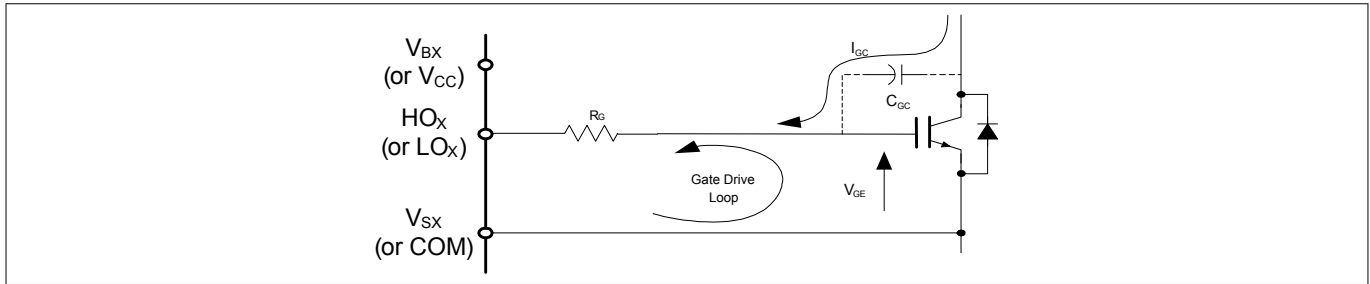

Figure 29 Antenna loops
**Gate Drive Loops:** Current loops behave like antennas and are able to receive and transmit EM noise (see Figure 29). In order to reduce the EM coupling and improve the power switch turn on/off performance, the gate drive loops must be reduced as much as possible. Moreover, current can be injected inside the gate drive loop via the IGBT collector-to-gate parasitic capacitance. The parasitic auto-inductance of the gate loop contributes to developing a voltage across the gate-emitter, thus increasing the possibility of a self turn-on effect.